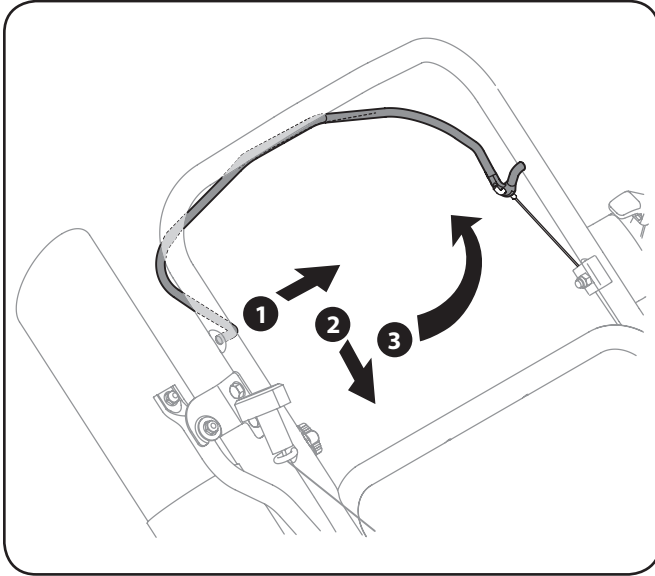

Figure 6-5
1. Push the right side of the control out of the right hole in the upper handle. See Figure 6-5.
3. Pivot straight up to remove it from the left hole in the upper handle. See Figure 6-5.